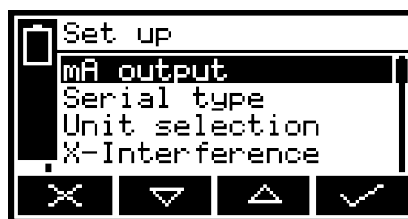

Figure 17: The Set up screen
1. With the Settings screen displayed, use the  and  soft keys to highlight the "Set up" menu option, then press the  soft key. Set up screen will then be displayed, as shown in Figure 17.